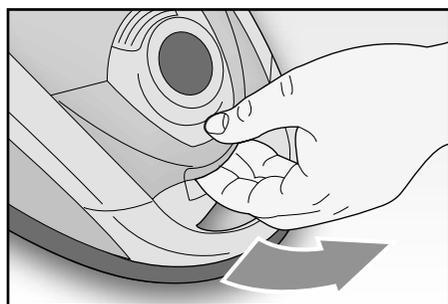

Fig. 8
- Open the bag compartment by pushing the relevant lever outwards (FIG. 8).